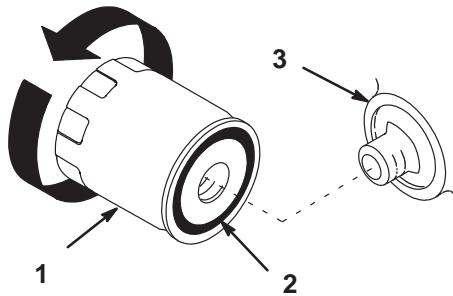

Figure 37
2. Remove the old filter and wipe the filter adapter (Fig. 37) gasket surface.
4. Apply a thin coat of new oil to the rubber gasket on the replacement filter (Fig. 37).
5. Install the replacement oil filter to the filter adapter. Turn the oil filter clockwise until the rubber gasket contacts the filter adapter; then tighten the filter an additional 1/2 turn (Fig. 37).